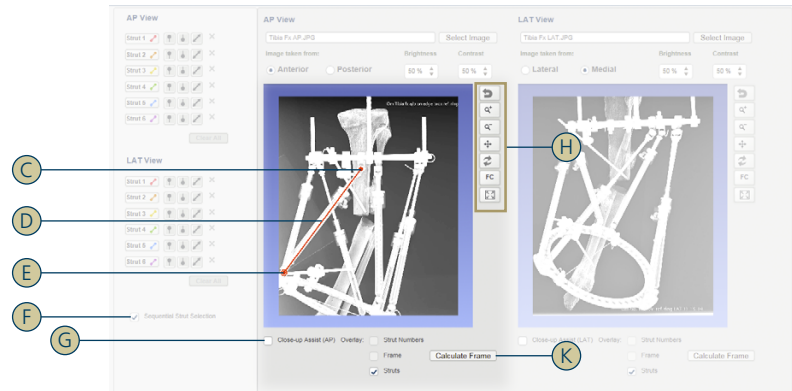
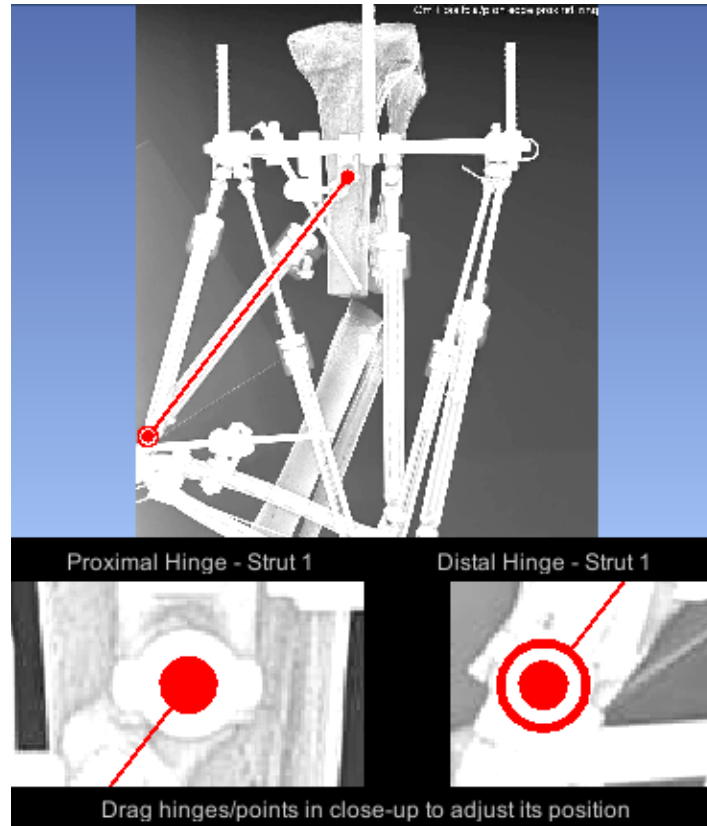

Figure 76 – PFM—Strut drawn
Figure 77 – PFM—Close-up Assist
2. Locate the proximal or distal hinge's position in the AP x-ray and click it. The selected position is marked with its associated hinge indicator and a red line to the mouse cursor indicates the strut (cf. [C] in figure 76).
3. Drag the mouse to the opposite hinge's position in the AP x-ray and click it. The selected position is marked with its associated hinge indicator (cf. [E] in figure 76).
4. Click a hinge and move to adjust its position. Click the strut line and move to adjust the position of the whole strut (cf. [D] in figure 76).
6. Click **Calculate Frame** (cf. [K] in figure 76) to calculate the frame model and show it on the actual x-ray image.
To delete a single strut marker, click the **Delete** icon (✕) right to the corresponding strut selection button (cf. [C] in figure 76 on page 69).
Select the option **Sequential Strut Selection** (cf. [F] in figure 76 on page 69) to automatically select the next strut not yet drawn for the selected view (AP or LAT) after finishing drawing a strut.
The **Close-up Assist** (cf. [G] in figure 76 on page 69) aids you with adjusting the positions of the hinges. When selected, zoomed views of the proximal and the distal hinges of the selected strut are displayed below the regular view (cf. figure 77). You can adjust the position of the hinges directly in the close-up views.
The AP view and the LAT view offer the following functions in their toolbars (cf. [H] in figure 76 on page 69):